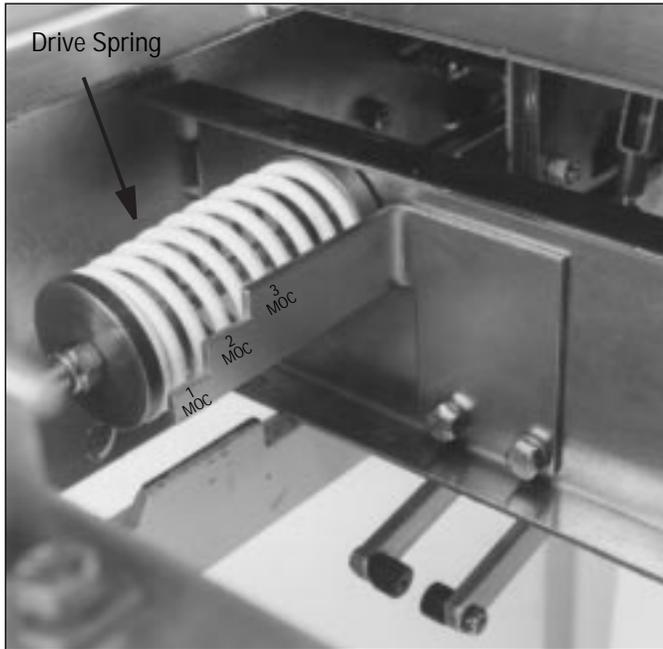

Figure 4-1 MOC Drive Spring
drive spring adjustment is required. The adjustment is done with the breaker out of the cell, open and all springs discharged. Refer to Figures 4-1 through 4-6 for reference assistance.
- Step 2:** Locate the MOC drive spring (Figure 4-1). It is located in the left lower portion of the breaker as viewed from the top rear of the breaker with the phase barriers removed.